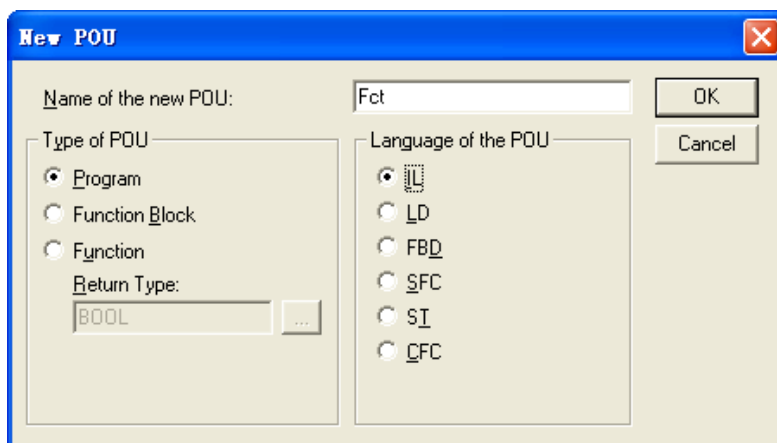

Figure 5-2-1 New Program
- Right click in the “POUs” tab in the object organizer, and select “Add Object”. The default name of a new POU is “PLC_PRG” if there are no POU. In the dialog “New POU”, select “Program” in “Type of POU”, as shown in figure 5-2-1.